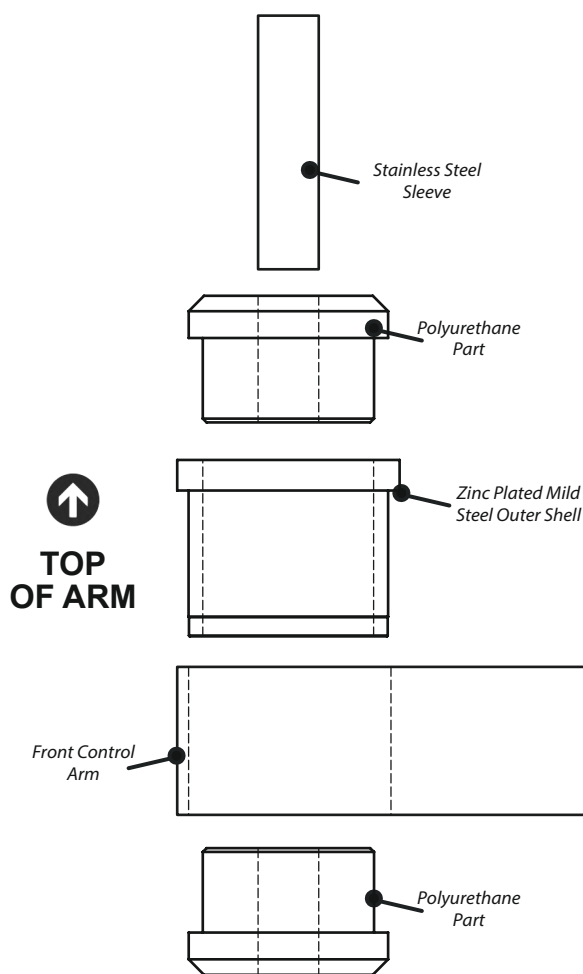

Figure 1
3. Insert the zinc plated mild steel outer shell into the bore of the arm, with the top lip facing the top of the arm, as shown in Figure 1.